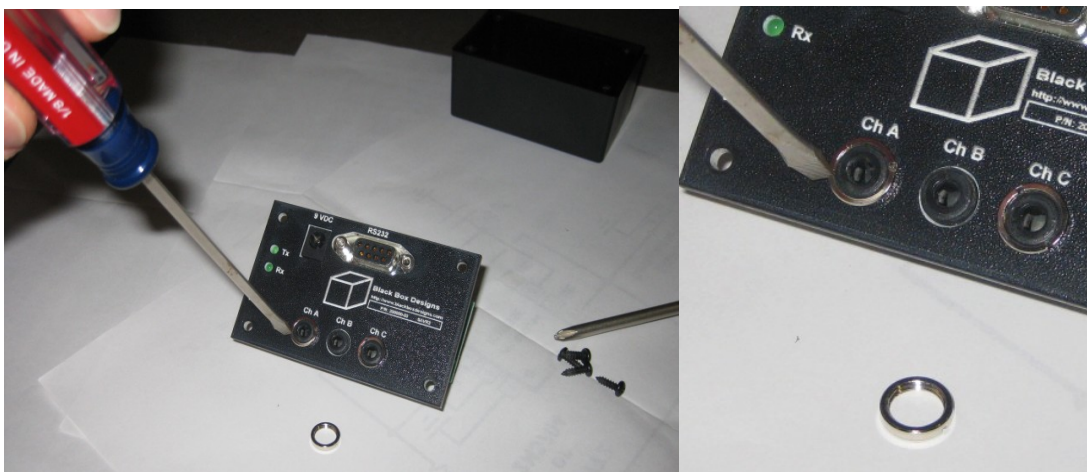

Figure 2: Remove the face plate
2. Remove the face plate from the SAVR3 by removing three retaining rings around the data ports Ch A, Ch B and Ch C using a pliers or flat blade screwdriver (**figure 2**). Turn the rings counter clockwise carefully. *Tip: Holding the screwdriver near the tip will help prevent slips that could leave scratches in the face plate.*